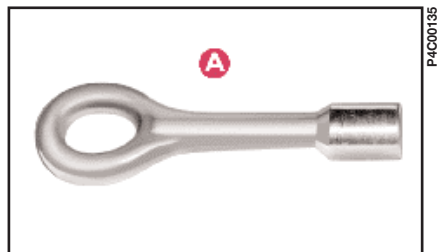
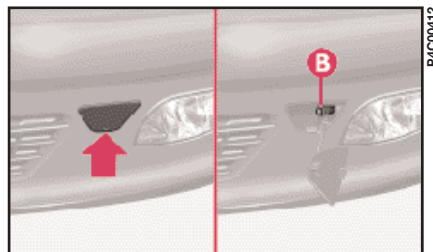
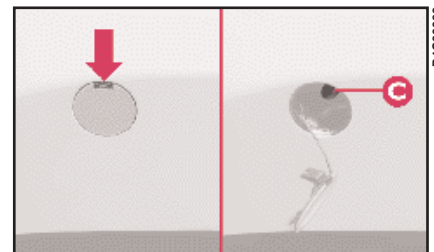

fig. 42
fig. 43
fig. 44
- 3) Screw ring **A** (fig. 42) onto the threaded pin **B** (fig. 43) or **C** (fig. 44) which can be seen when the cover is removed.
B - front anchorage point (fig. 43).
C - rear anchorage point (fig. 44).